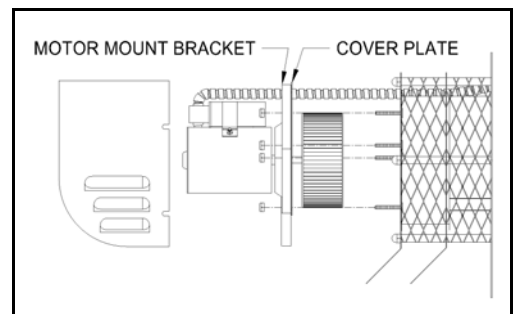

Figure 16
3. Remove the three or four nuts securing the motor assembly, and pull the motor assembly straight off of the unit. (See Figure 16)
1. Align the holes in the circular cover plate with the holes in the motor mount bracket on the motor assembly. (See Figure 16)
2. Slide the motor assembly onto the protruding threaded studs on the power venter body with the exhaust chute pointing downward, and replace the four nuts securely to the threaded studs. (See Figure 16)